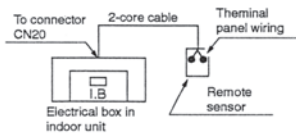

Fig.3
- The wiring connection of the indoor unit's electrical box and remote sensor is shown in Fig.3. There are three methods of connecting the 2-core cable to the electrical box. Exchange 2-core cable (connector 20)
- ① When using the connector attached to the end of the 2-core cable as it is.
- ② When cutting the connector attached to the end of the 2-core cable and connecting the cable to the terminal block in the I.B. (Indoor Board).
- ③ When using the enclosed post for connection and convert cable.